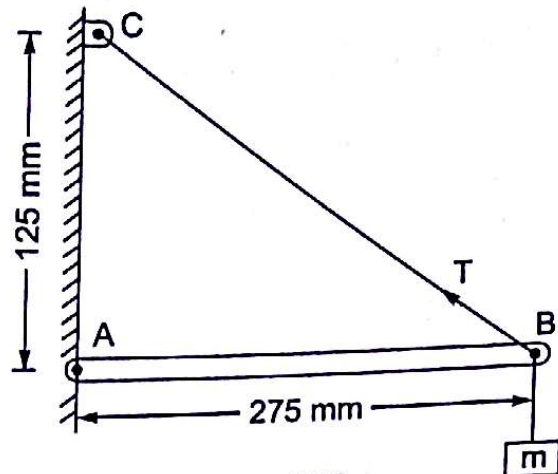

Fig. 3.70
3.17 A mass of 35 kg is suspended from a weightless bar AB which is supported by a cable CB and a pin at A as shown in Fig. 3.70. Pin reactions at A on the bar AB are